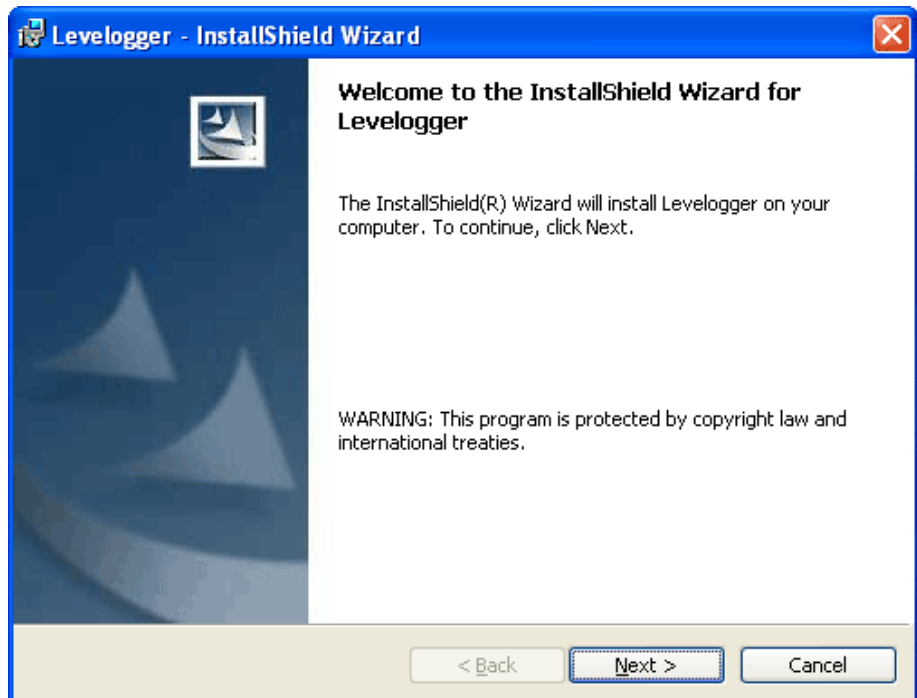

Figure 3-1 Software Installation Wizard
- At this point Windows will prompt you through the remainder of the installation process. Figure 3.1 shows the Levellogger Installation Wizard.